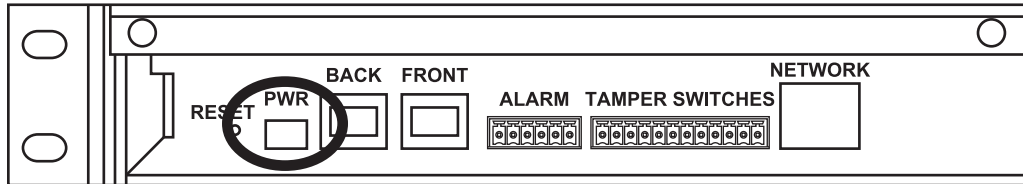

Figure 24. Connect power supply to the control unit.
- Connect the supplied power supply as shown in Figure 24.